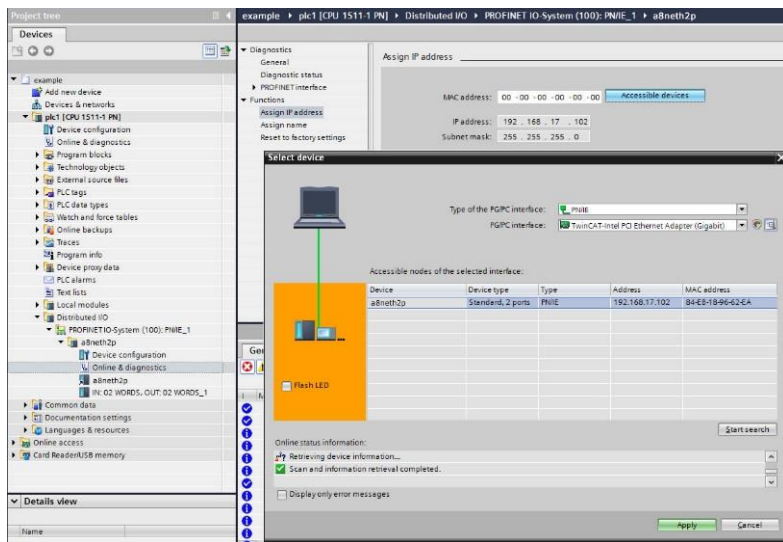

Figure 73: Discover PROFINET Devices on the Network
In the **Project tree**, expand **plc1...Distributed I/O...PROFINET IO-System (100):PN/IE_1**. Expand the device and double-click **Online & diagnostics**. In the next panel, expand **Functions** and select the **Assign IP address** node. Click the **Accessible devices** button. Select the appropriate **PG/PC interface** and click the **Start search** button to discover and display the PROFINET devices on the network as shown in Figure 73. Select the device and click the **Apply** button.